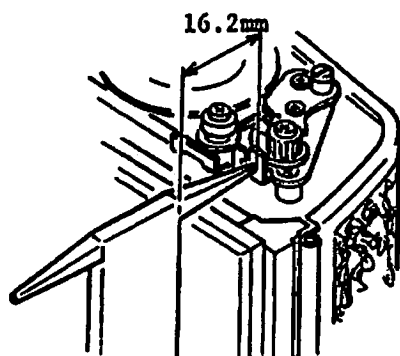

Fig. 130
- (1) Place the edge with 16.2mm long of Signal gauge (aRSH-15) so as to touch with Signal lever as shown in Fig. 130.
- (2) Horizontal lever of Preventive lever assy. shall return smoothly when returning Winding lever slowly.